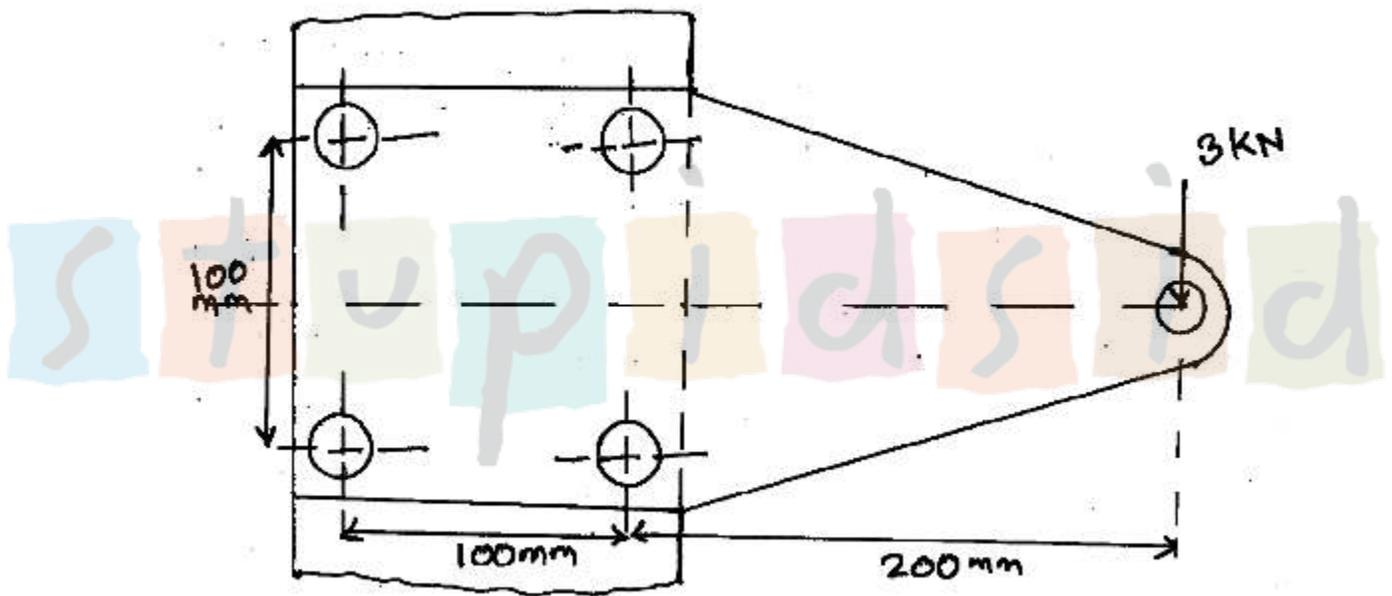

Fig. 3
- (b) A steel plate is subjected to a force of 3 kN and fixed to a vertical channel by means of four identical bolts is shown in Fig. 3. The bolts are made of plain carbon steel 45C8 with yield strength 380 N/mm^2 . If the required factor of safety is 2, determine the diameter of bolts. [10]